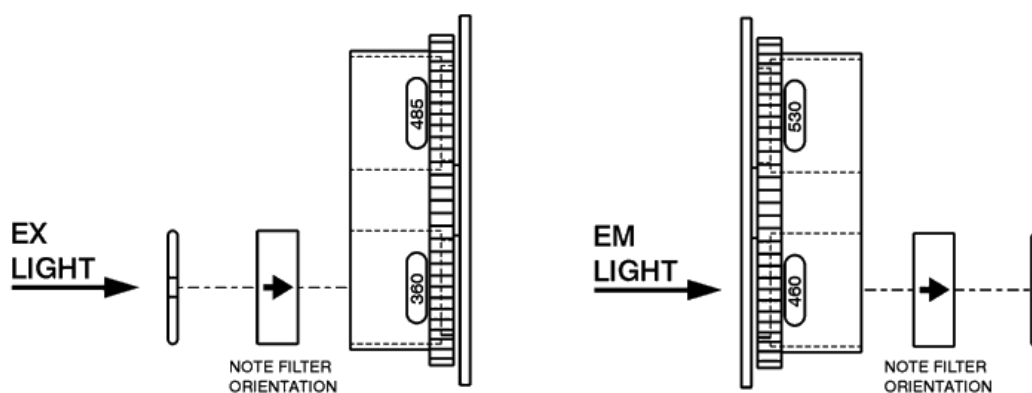

Figure 25: EX and EM filter wheels, showing correct orientation of the filters
Each filter wheel is labeled as EX or EM, and can contain up to four filters and/or black plugs (also referred to as “dummy filters”). Each filter has its central wavelength and bandpass values printed on its side, with an arrow to indicate the proper direction of light through the filter (see **Figure 25**). Filters and plugs are secured with C-clip retainers.
- Filter direction within each filter wheel is important, and the direction differs depending on the filter wheel type. A diagram on the inside of the reader’s front panel door indicates orientation; see **Figure 25**.
1. Ensure that all filters and/or plugs are inserted properly (see **Figure 25**).
2. Orient the filter or plug (see **Figure 25**): Observe the arrow on the filter indicating the light direction. Align the filter’s wavelength number with the window in each filter holder, then drop it into the desired location.